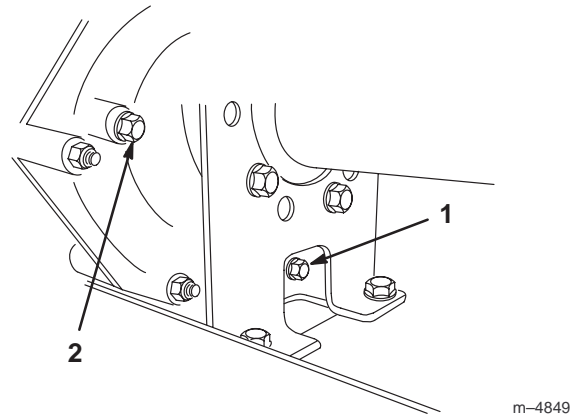
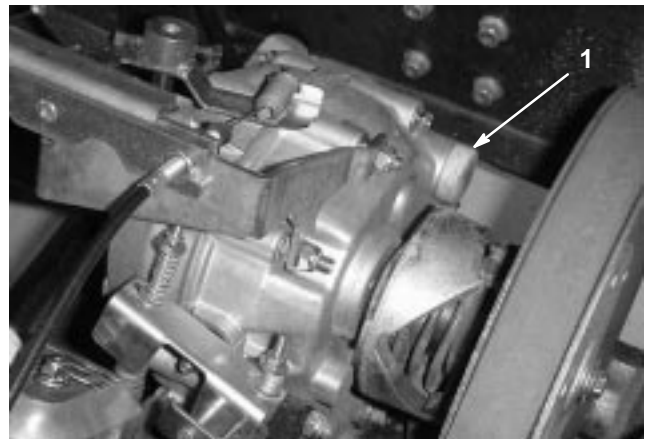

Figure 32
Figure 33
2. Remove the drain plug from the right side of the reservoir (Fig. 32) and let the fluid flow into a drain pan. Install and tighten the plug when the fluid stops draining.
3. Fill the reservoir (Fig. 33) with approximately 1-1/2 qt. (1.4 liters) of SAE 10W30 motor oil or until the oil level is at the bottom of the level indicator hole (Fig. 32).